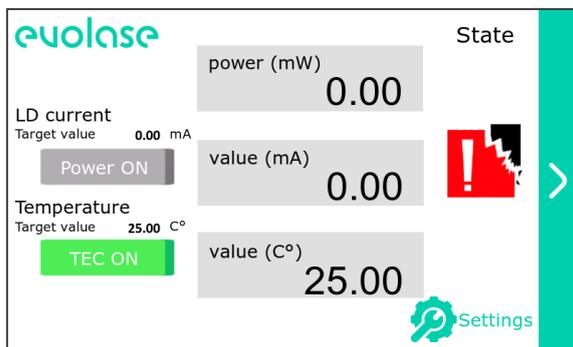

Figure 8 – Interlock
15. The laser emission wouldn't turn on if there is no interlock jack in laser bench. In this case, when the “Power ON” button is taped an interlock icon will appear in the state column on the right side of the screen (fig. 8). To turn on the laser emission, return the interlock jack to its place and tap the “Power on” button.